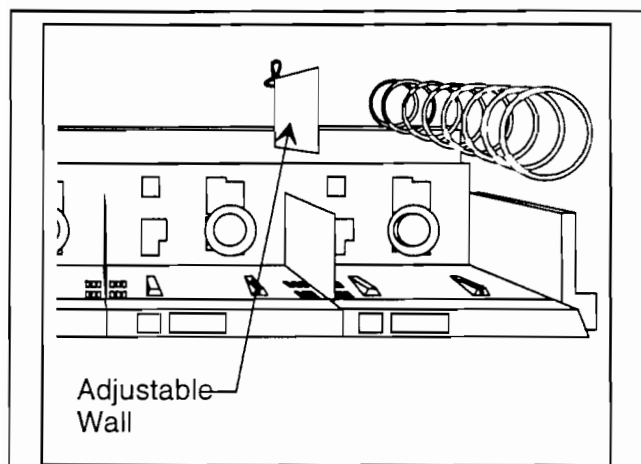
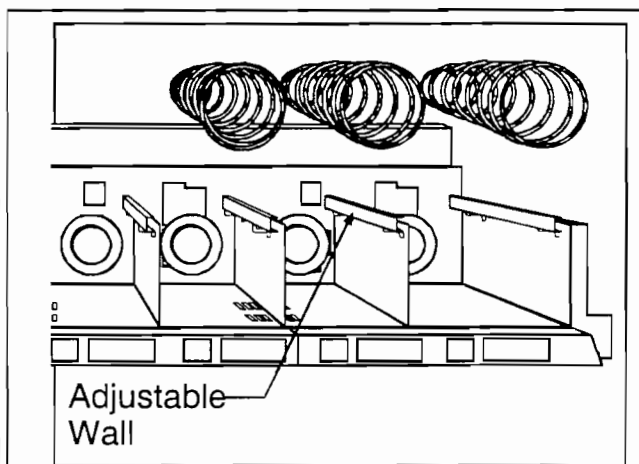

Figure 1-1
Figure 1-2
10. Three (781), four (784) and five (783) selection shelves feature an adjustable wall to the left of the far right spiral. The wall can be installed in any one of the four positions in the bottom of the tray. After adjusting the wall for the desired width, check to be certain that the product moves freely when the selection on each side of the adjustable wall is vended (See *Figure 1-1* and *Page 6-22*). Additional tray walls are shipped with each machine and can be installed in the pastry tray slots to accommodate the narrower items. On 6, 8 or 10 selection trays, the adjustable wall swings out from the right side of the shelf wall (See *Figure 1-2*).